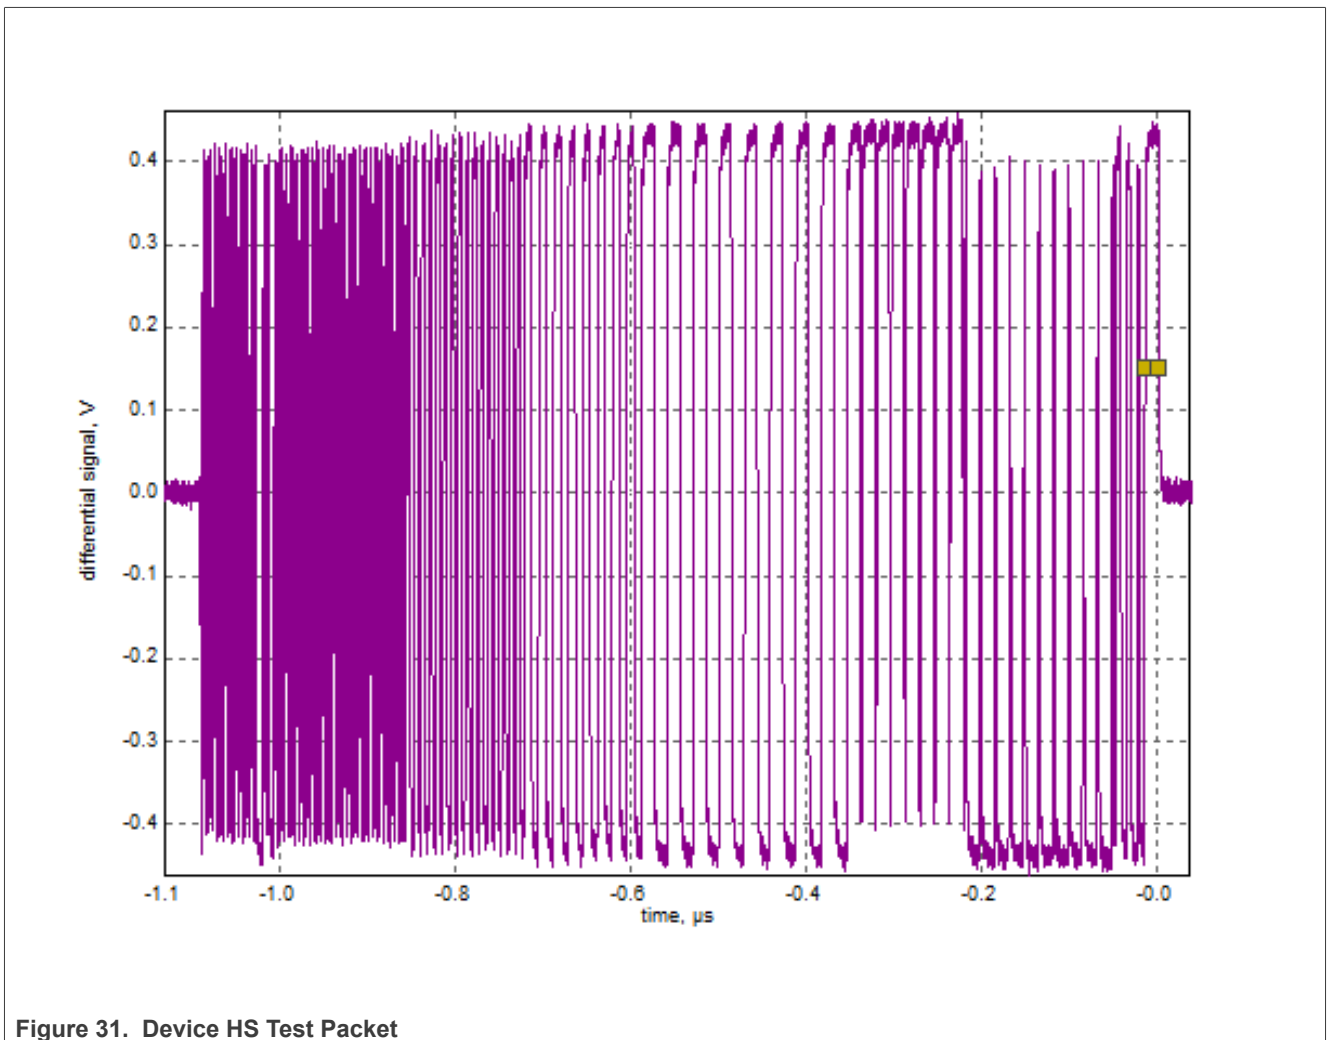

Figure 31. Device HS Test Packet
6. Place the Test Switch (S1) in the **TEST** position according to the requirement of Automated Test Software. Verify that the yellow TEST LED is lit. You should see the transmitted test packet on the oscilloscope as Figure 31.